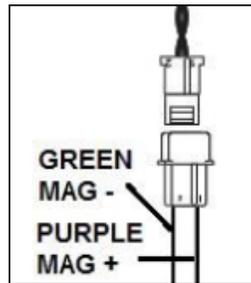

Figure 4
- Next, locate the wiring harness supplied with the distributor, plug the 2 pin connector from the distributor harness into the 2 pin connector on the Sniper EFI Main Harness (7 pin Connector). These connectors are keyed, however the Purple and Green wires should plug into each other (**Figure 4**).